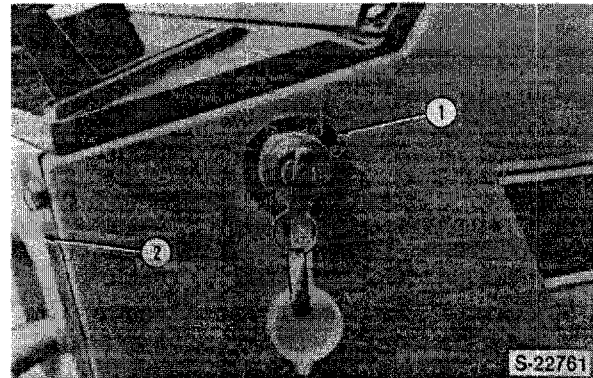

Figure 17
3. Unscrew the nut (2), Figure 17, and remove the switch from the bottom side of the instrument panel.
Remove the key start switch from the mounting panel, Figure 17.
1. Remove the steering shroud center panel (2), Figure 17.